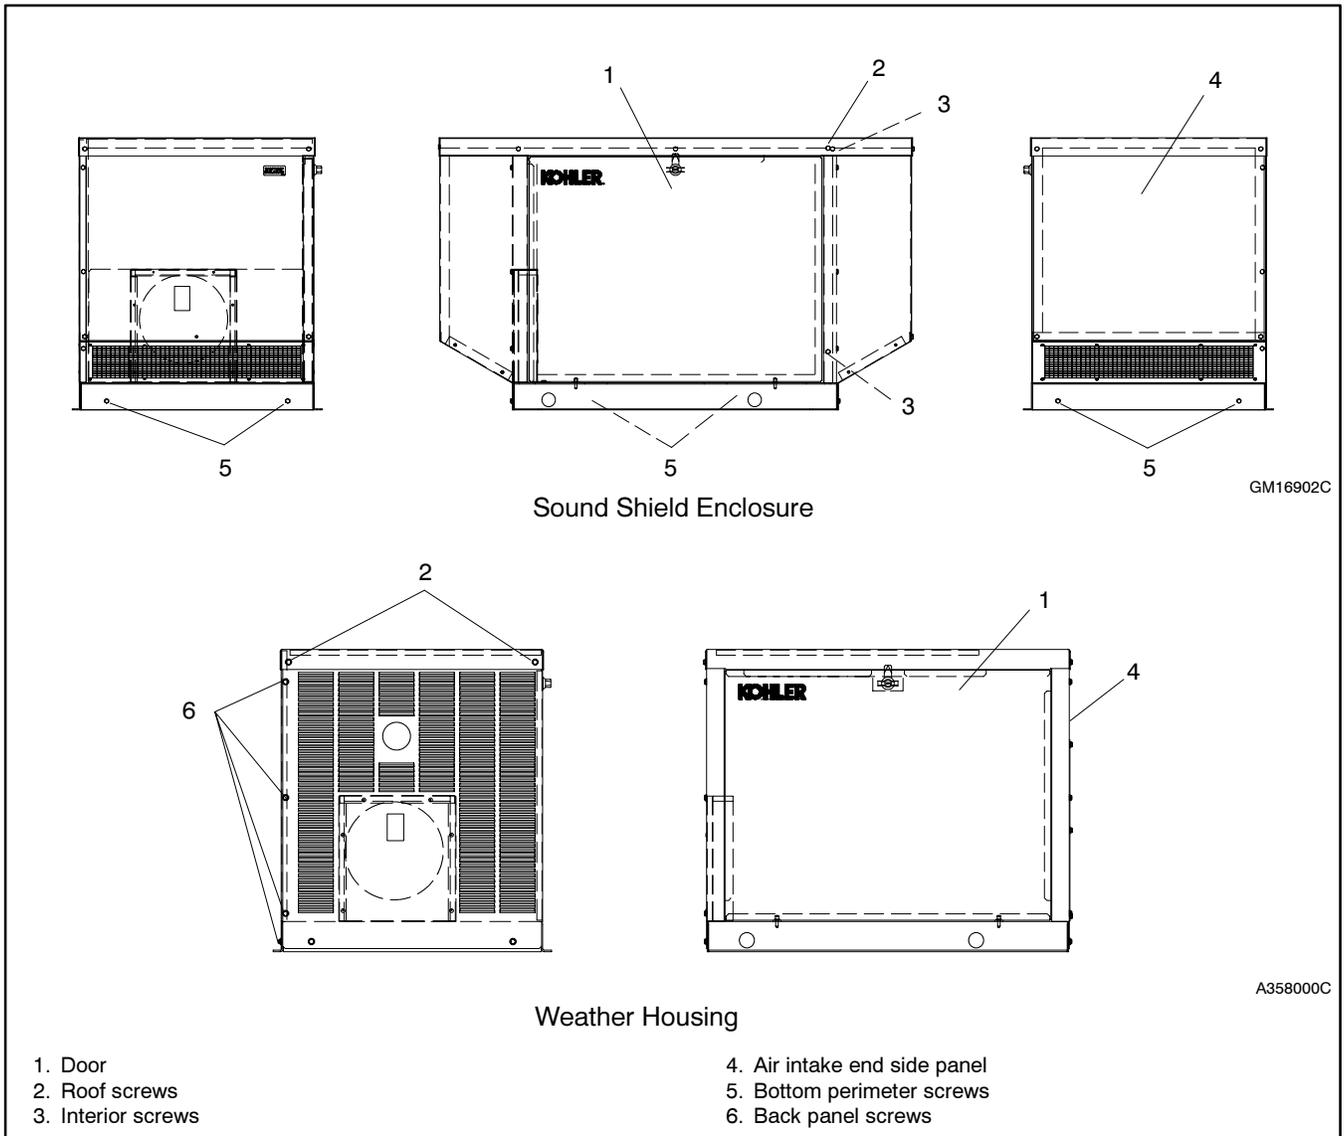

Figure 3 Generator Set Enclosures
2.2 Remove the generator set enclosure and disconnect the battery. See Figure 3.
- b. Remove 2 screws from inside the air intake (near the battery). See Figure 3.